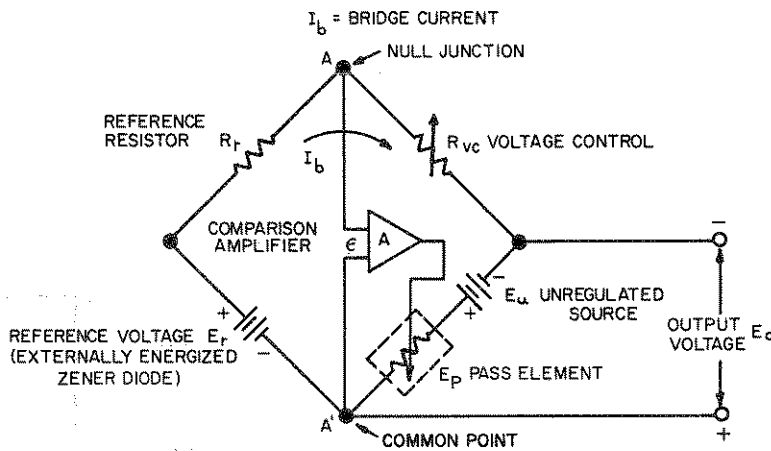

FIG. 3-4 KEPKO POWER SUPPLY AND COMPARISON BRIDGE CIRCUIT
3-9 GENERAL. A few general remarks may be in order to familiarize the user of this equipment with the terminology and basic equations pertaining to remote programming of the Kepco JQE Power Supplies. Electrically, the power supply consists of the unregulated DC source ( $E_U$ ), the pass element ( $E_P$ ), the DC error amplifier (A) and a comparison circuit which resembles a four-arm electrical bridge. (Refer to FIG. 3-4). The elements of the bridge are arranged to produce a virtual zero at the amplifier input when the bridge circuit is at balance ( $V_{AA'} = 0$ ). Any tendency for the output voltage to change in relation to the reference voltage ( $E_r$ ) creates an error signal ( $e$ ) which, by means of negative feedback and the amplifier, tends to correct the output voltage towards restoration of bridge balance.